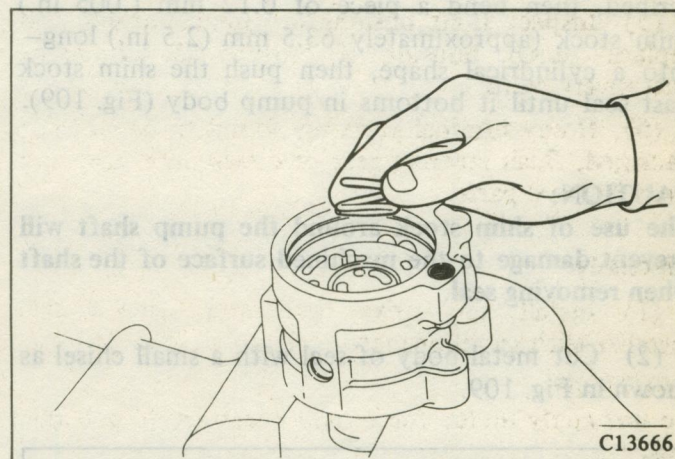

Fig. 107 Installing the Pressure Plate Spring
(10) Lubricate new end plate O ring with MOPAR ATF DEXRON II (Part Number 3459660 or 4131509) or equivalent, and install in second groove from rear of housing.
(11) Install end plate spring in groove provided in pressure plate. (Fig. 107)